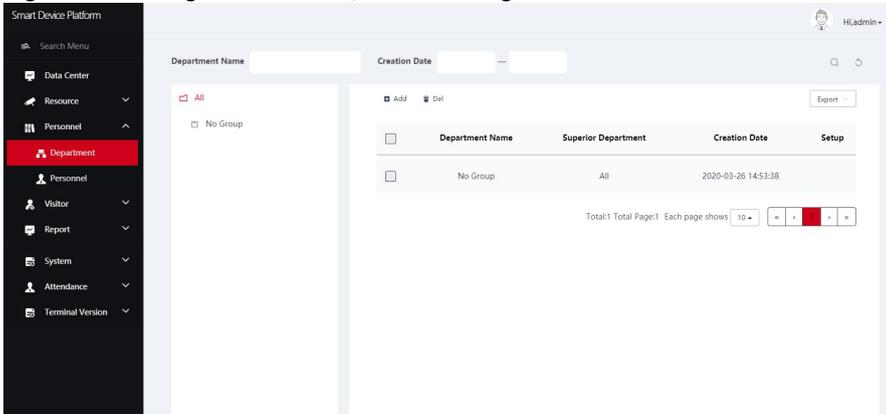

Figure 5-30
Step 1: In the smart device platform interface,click "Personnel→Department" to enter the organization management interface, as shown in Figure 5-30 below.